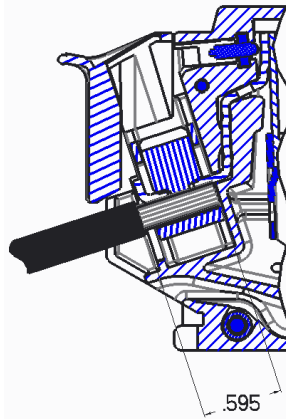

Figure 4: Stripped Wire Installed
6. Wire the circuit breaker to be used as main. Fig. 4
After stripping the wires to the required length, the wires can be installed as shown in Figure 4. The service barrier must be correctly installed to maintain electrical isolation from accidental contact. Torque the wires according to the torque specification on the breaker.